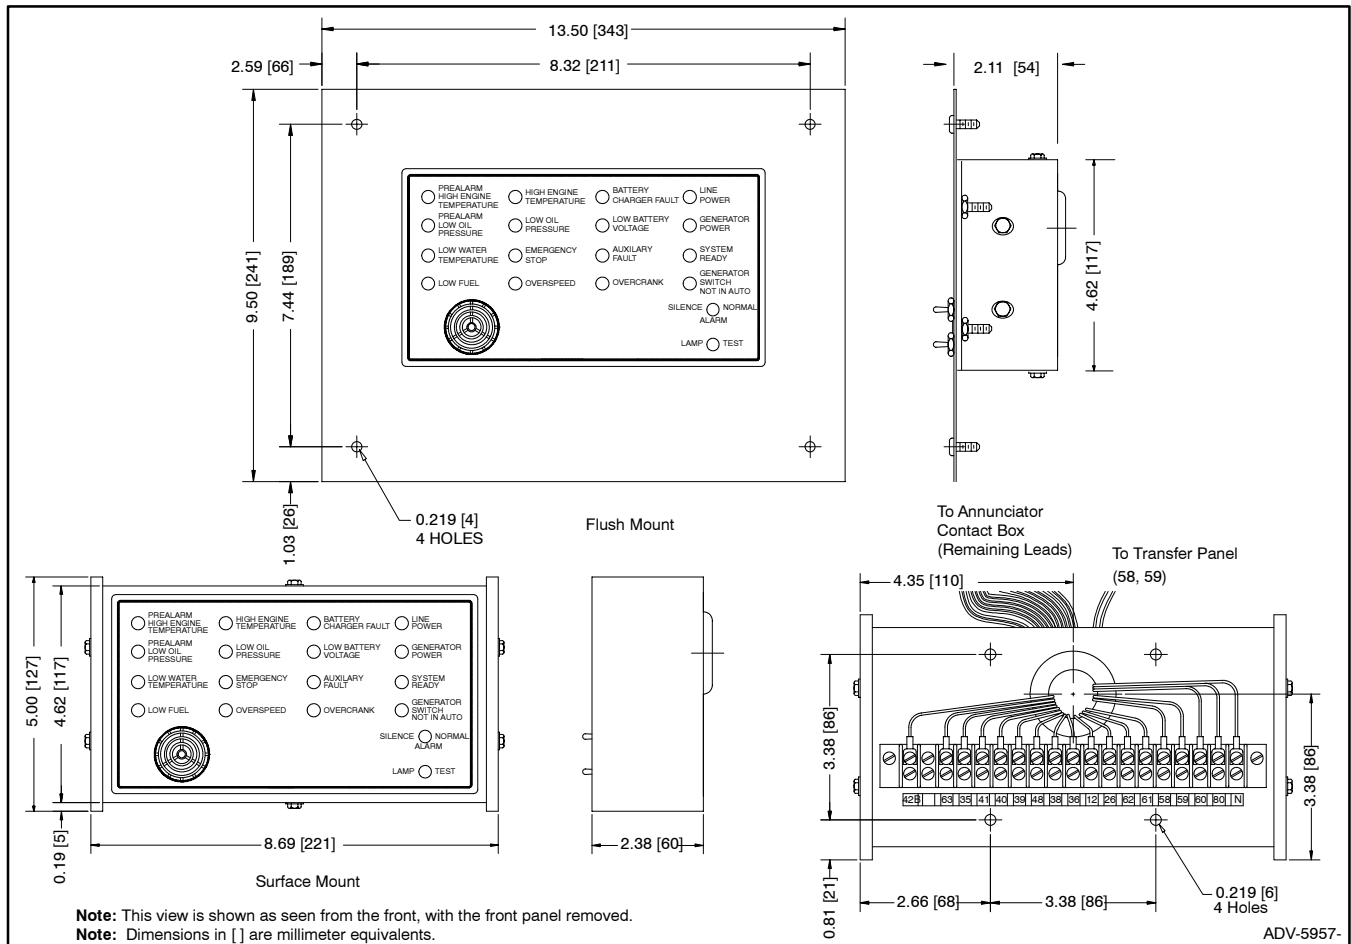

Figure 6 Component Dimensions
5.1 Select a visible location for mounting the remote annunciator panel. Install the remote annunciator panel, either surface- or flush-mounted, in a location easily observable by operating personnel at their work stations. See Figure 6 for remote annunciator dimensions and mounting hole dimensions.
5.2.4 Mount the remote annunciator back panel to the wall or to the electrical box in the wall. See Figure 6 for the mounting hole dimensions. Protect the remote annunciator from dust and debris when drilling the holes.